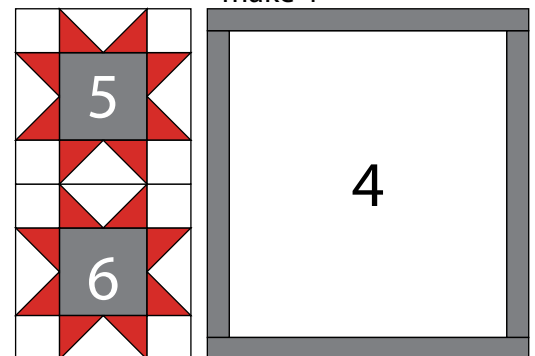

Fig. 19
(Follow the Place Mat Layout in Figure 19 while assembling.)
24. Sew (1) Block Five square to the top of (1) Block Six square. Sew the newly sewn strip to the left side of (1) Block Four square to make (1) Place Mat top (Fig. 19). Repeat to make (4) Place Mat tops total.